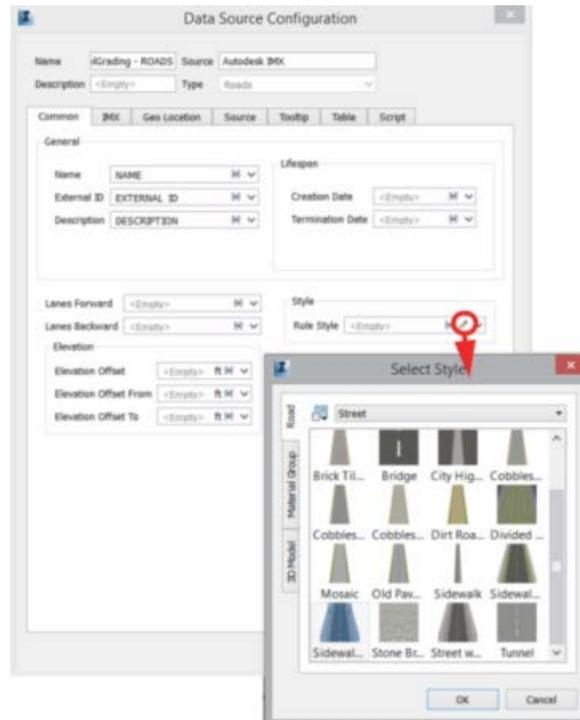

Figure 26
- Alignments and Profiles:** Alignments and profiles are combined into one road feature. They are assigned a road style in the Data Source Configuration dialog box in the Common tab, in the Style area. Any alignments and profiles that are used to create a corridor model are imported separately. For any alignments that are not associated with a corridor model, you can set the style in the Common tab in the Data Source Configuration dialog box, as shown in Figure 26.